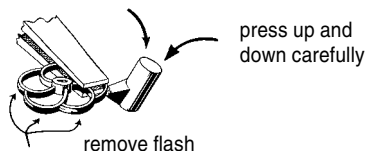

Fig. 1
When the wheels clean, the sprue piece can be removed as indicated in Fig. 1. During this operation be extremely careful to grip the wheel properly with pliers jaws while gently applying finger pressure in an upward and downward motion on the sprue, otherwise it is possible to break away a portion of the wheel rim.
1. To pick up spring place it on the cloth (this allows the small springs to be seen and picked up easier) and insert '241 Dual Tool (Manual Uncoupling Tool & Spring Pic) into spring between coils near one end. See Fig. 1.